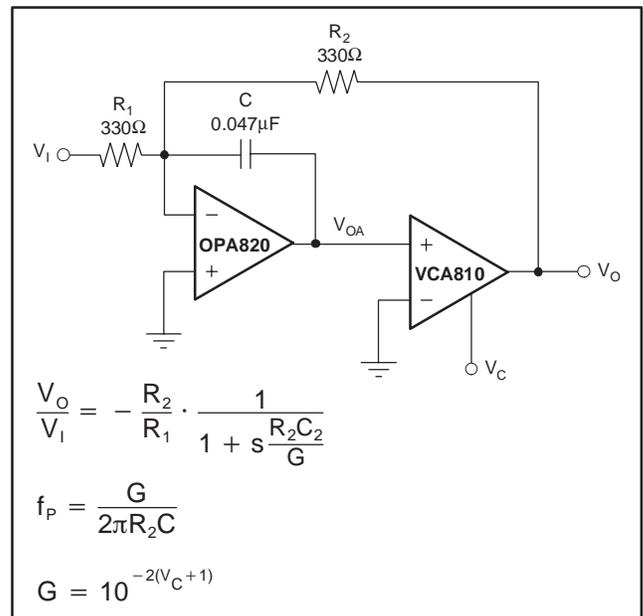

Figure 11. Tunable Low-Pass Filter
In the circuit of Figure 11, the VCA810 serves as the variable-gain element of a voltage-controlled low-pass filter. This section discusses how this implementation expands the circuit voltage swing capability over that normally achieved with the equivalent multiplier implementation. The circuit response pole responds to control voltage V_C according to the relationship in Equation (3):